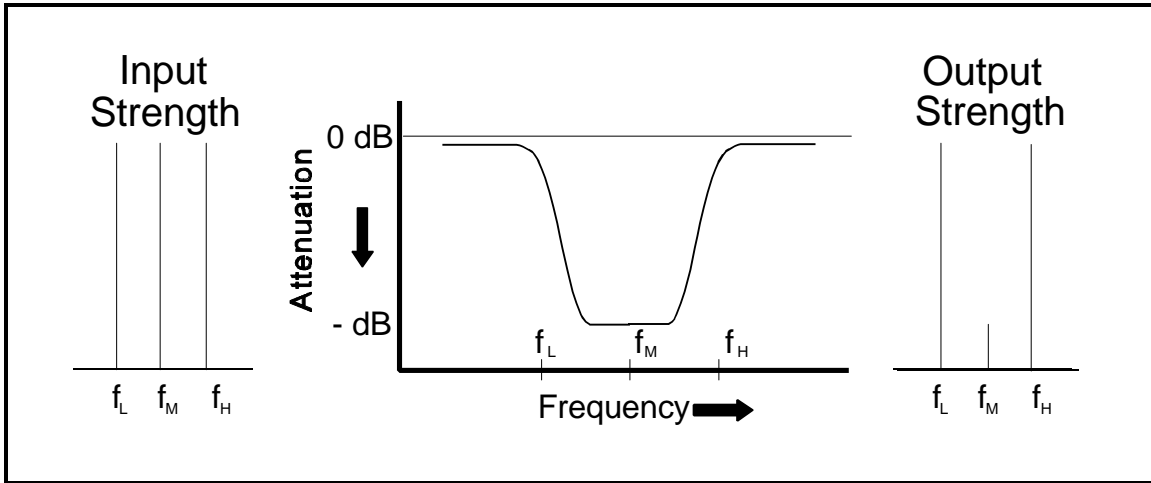

Figure 4. Band-Reject Filter
4. A band reject filter (sometimes referred to as a bandstop or notch filter) which rejects signals between two predetermined frequencies such as high power signals from the aircraft's own radar as shown in Figure 4.